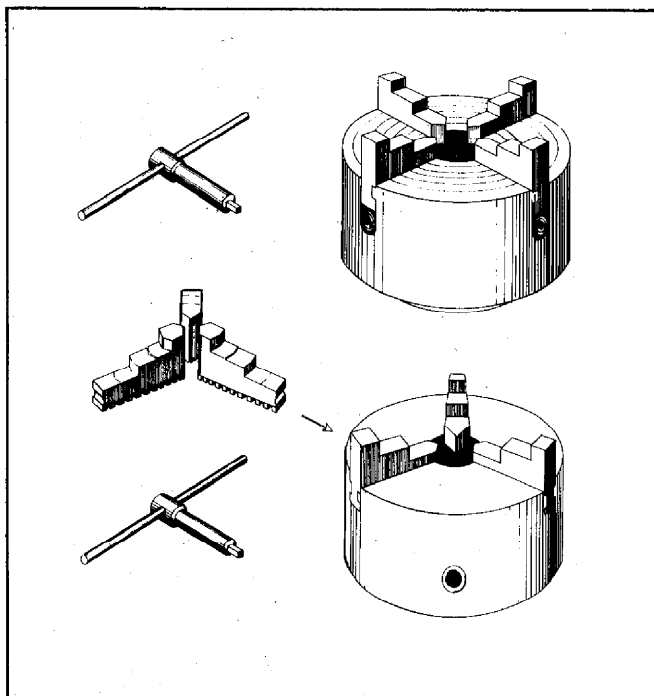

FIG. 21—3 AND 4-JAW LATHE CHUCKS
Two types of lathe chucks are commonly used—the three-jaw, universal or "scroll" chuck and the four-jaw, independent chuck pictured in Fig. 21. These are used for turning work that cannot be readily turned between centers. In some cases, the chucks are threaded onto the spindle nose while others are bolted to an adapter plate that fits on the spindle. Before mounting a chuck or face plate, clean the spindle shoulder and back of the chuck, and thoroughly oil threads on spindle head and chuck. **Turn the chuck on by hand**, being careful not to spin it up to the shoulder with a jolt as it may jam, and never use lathe power to screw a chuck on or off the spindle. A "sticky" chuck can be loosened by one of the following methods. (1) Engaging the back gears while the bull gear is connected to the spindle pulley so the spindle will not turn, and turning the chuck by placing the chuck-wrench in its hole and pulling on it. (2) Placing a block of wood between the chuck jaw and lathe bed, engaging the back gears, and turning the spindle by pulling the belt by hand. Be careful when removing the chuck; you can damage the spindle threads or the bed ways, if you let it drop. If you must limit your equipment to a single chuck, the four-jaw independent is recommended as it will hold square, round or irregular-shaped work in either concentric or eccentric position. Each jaw is controlled by a head-screw, and the series of concentric circles scribed on the face permit approximate centering by moving all jaws to the same line or to the same distance from the same line.